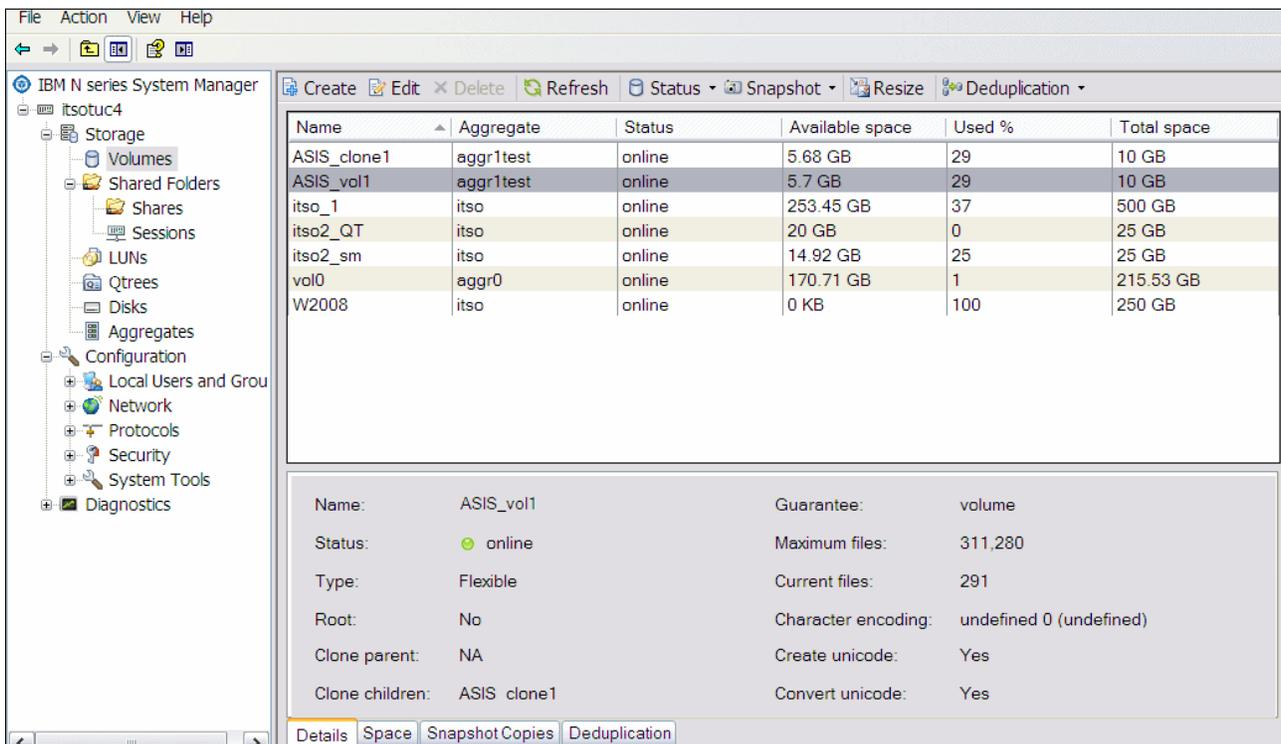

Figure 7-17 Deduplication complete
- When ASIS has completed its run the volume has reduced its size. The differences are shown in Figure 7-17. The FlexClone volume ASIS\_clone1 is not affected by these operations since it is still tied to the snapshot consistency point defined at its creation.